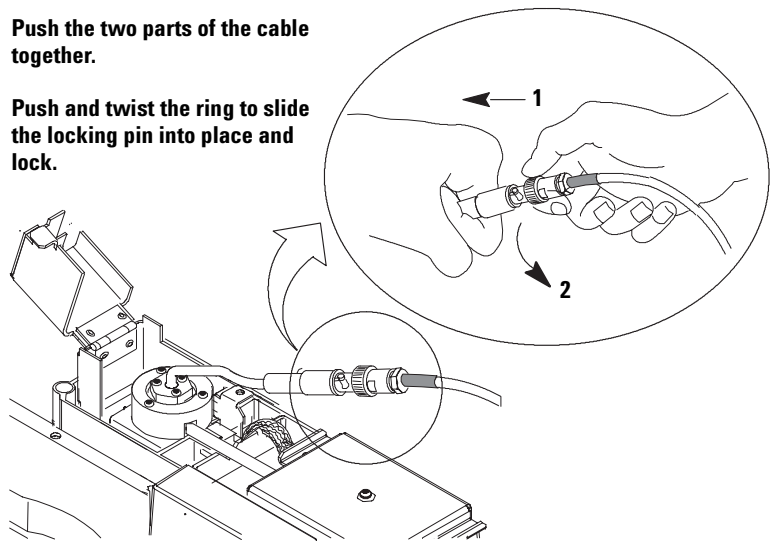

Figure 8 Connecting the bead assembly cable
- 7** Reconnect the bead assembly cable to the NPD cable as shown in Figure 8. Twist the ring to lock the connection.